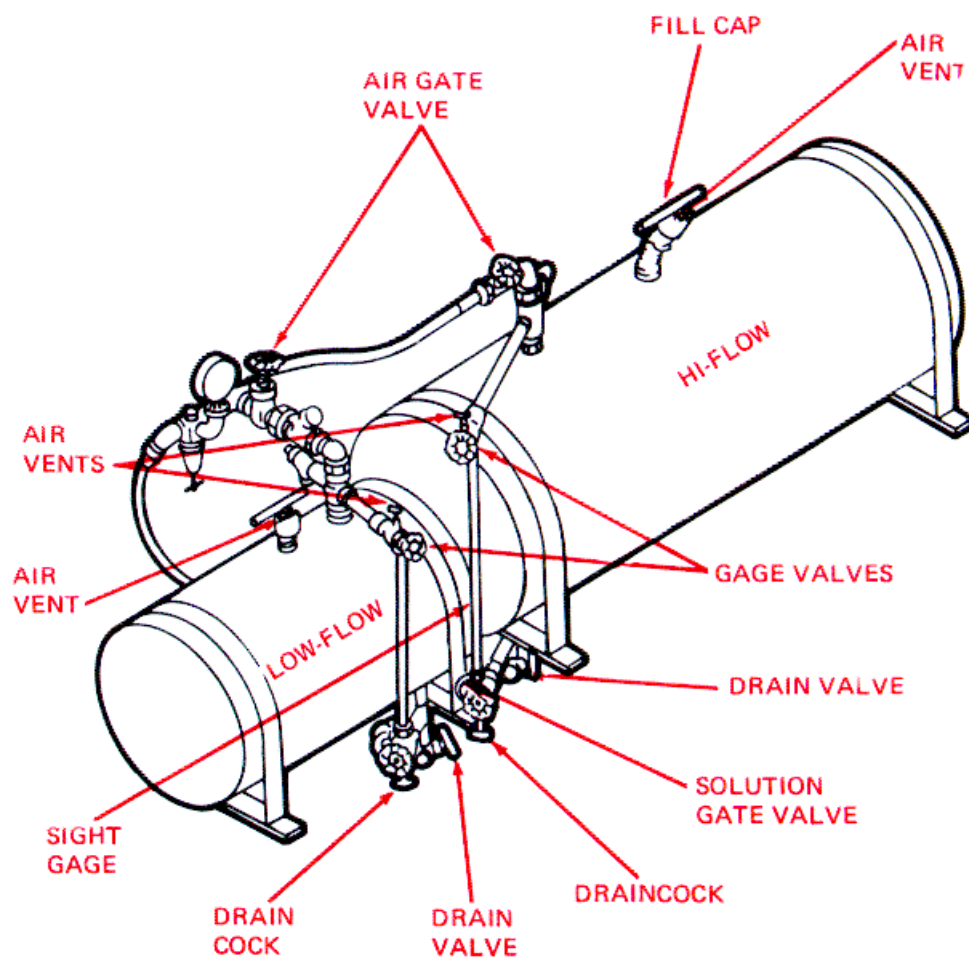

Figure 3-13. Liquid Admix Tanks.
- (2) Open the vents and draincocks on the sight gages (fig. 3-13). Open the vents on the fill caps. Turn the drain valves counterclockwise to open them.
- (3) Open the air gate valves (fig. 3-13). When no more admix comes from the draincocks and drains, close the air gate valves.